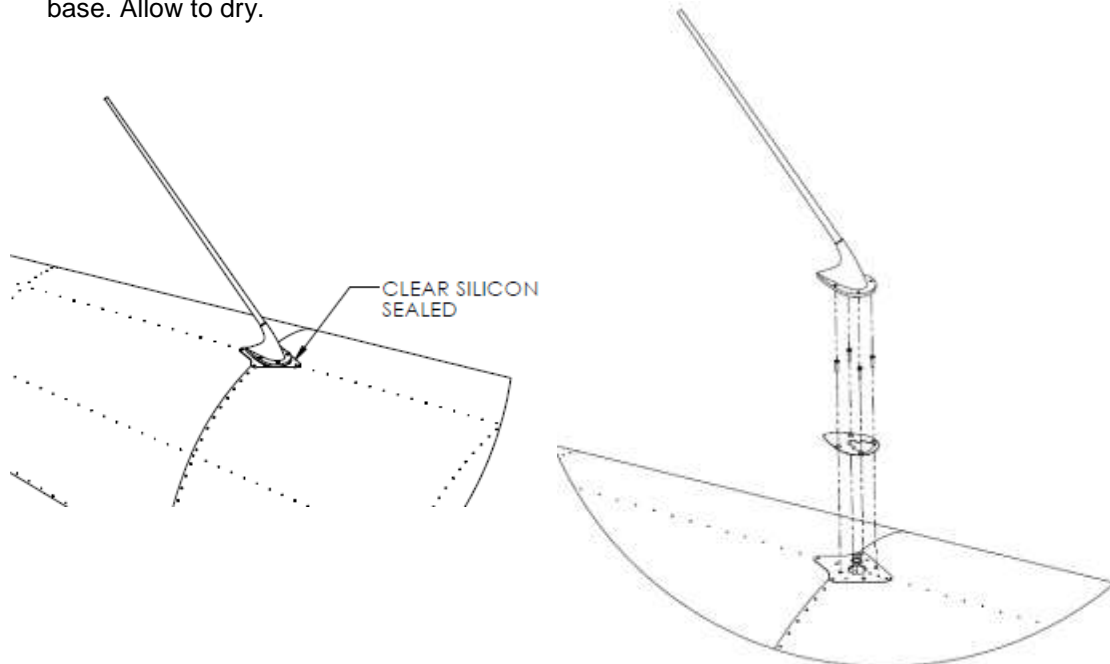

Figure 62: VHF antenna installation.
2. Apply clear silicone (refer to Figure 62) around the interface between the fuselage and antenna base. Allow to dry.